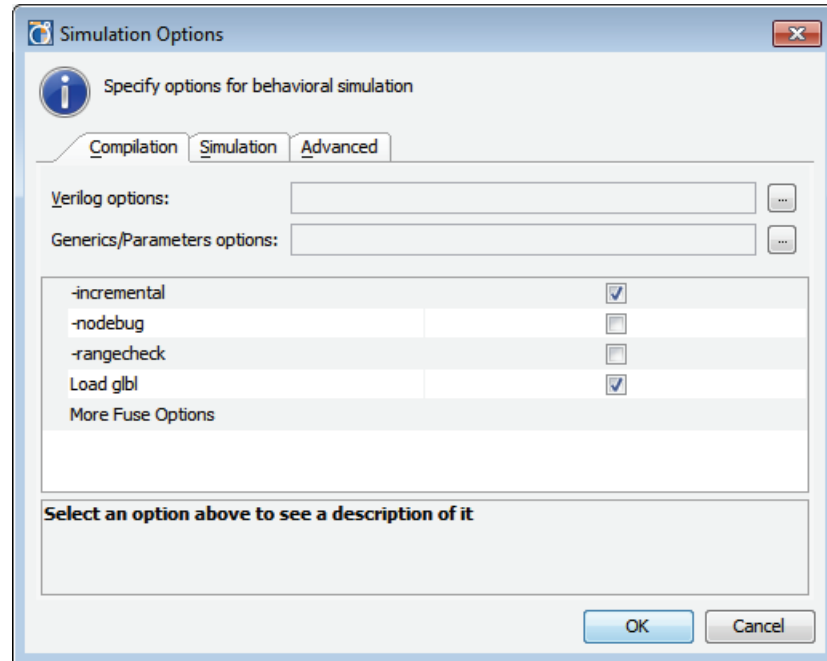
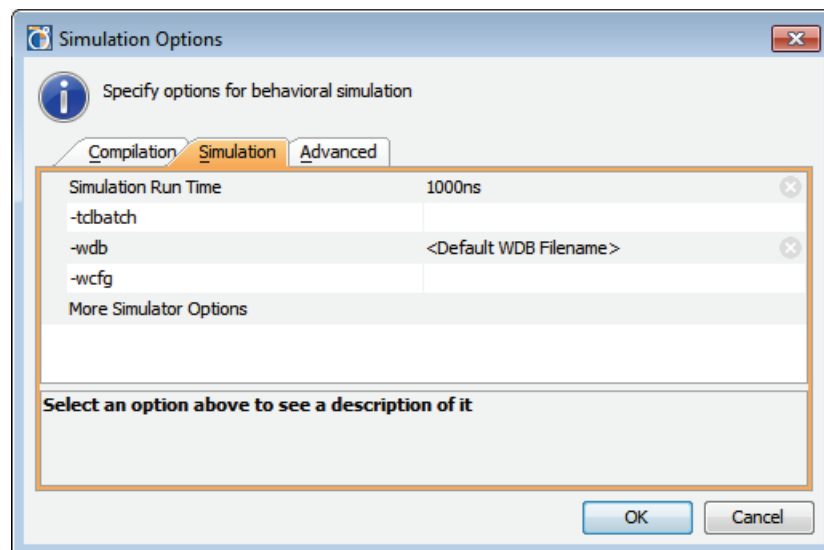

Figure 5-5: Simulation Options Dialog Box
Figure 5-6: Behavioral Simulation Language Options
- **Options:** Opens the Simulation Options dialog box as shown in Figure 5-5, page 190 and Figure 5-6, page 191.
The **Compilation Option** tab of the Simulation Options dialog box contains the options to control the execution of fuse and ISim, as shown in Figure 5-5, page 190.
Figure 5-6 shows the **Simulation** tab of the Simulation Options dialog box.